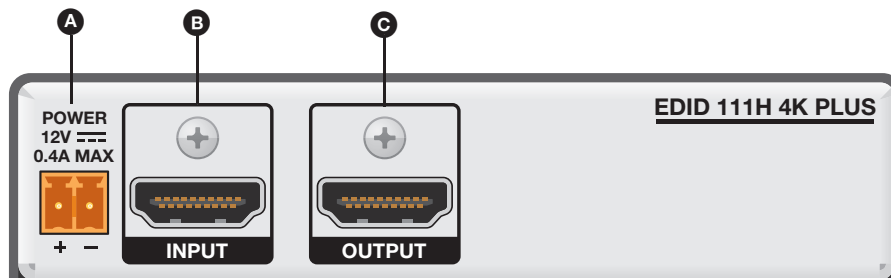

Figure 2. EDID 111H 4K PLUS Rear Panel
3. Connect an HDMI cable from the source to the input connector (see figure 2, B on page 4).
2. Connect the display device to the output connector of the EDID 111H 4K PLUS (see figure 2, C on page 4).
3. Connect a power source and apply power to the EDID 111H 4K PLUS (see figure 2). The power LED lights steady when power is available.